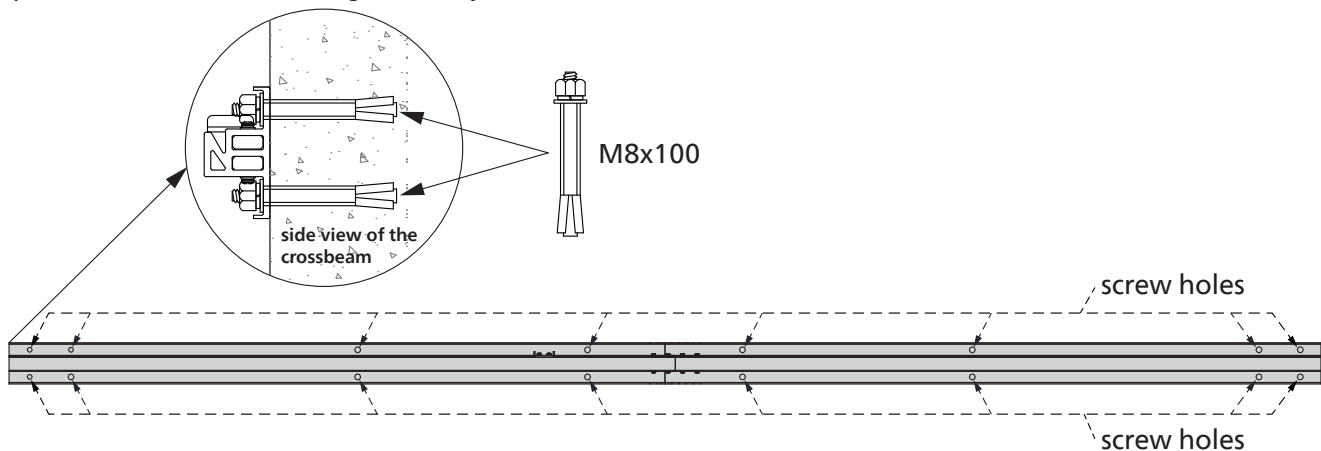

Figure 3 Lower crossbeam Installation
2. First determine the position of the lower crossbeam with a gradienter, and fix the lower crossbeam to the wall using expansion screws, as shown in Figure 3. (Any crossbeam can be used as a lower crossbeam)